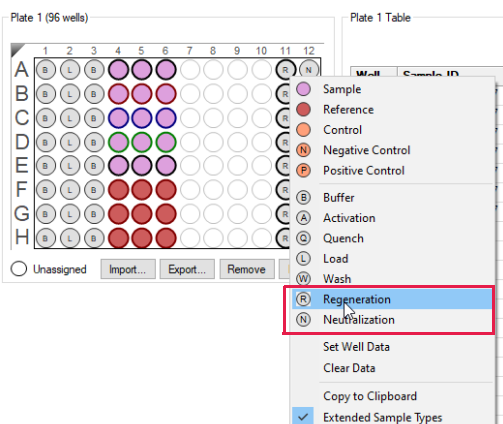

Figure 9-32: Regeneration Step
- In the **Sample Plate Map**, assign wells as **Regeneration** or **Neutralization** (Figure 9-32).